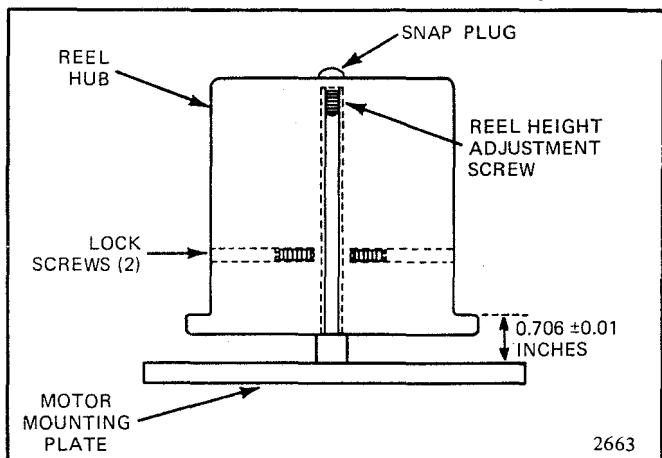

Figure 16. Reel Height Adjustment
1. Check the distance between the reel hub flange and the top of the motor mounting plate. See figure 16.